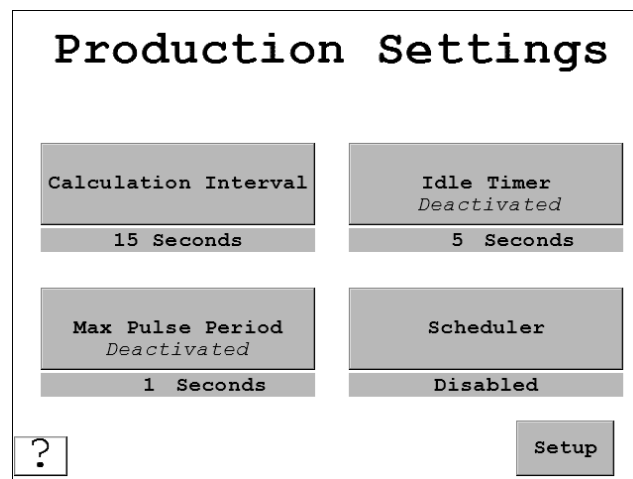

Figure 3-15. Production Settings Screen
The following sections show you how to set the interval SMI 2 uses to calculate the production rate and specify the period of time SMI 2 waits after activation of the Cycle input before changing the machine state from “Running” to “Idle.” You make these settings on the Production Settings screen (Figure 3-15).
2. Press *Production Mode*. The Production Settings screen (Figure 3-15) appears.